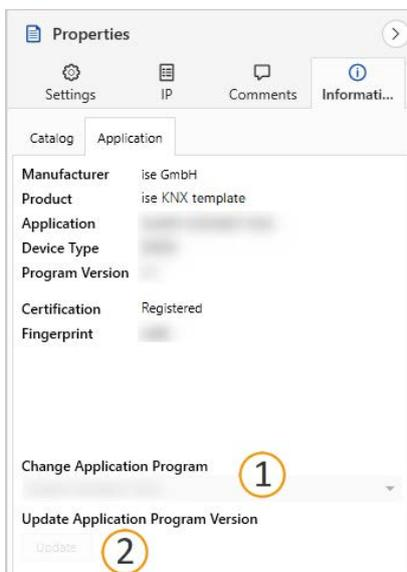

Figure 25: Updating the application program
5. Select the <<Update>> button under the item <<Update Application Program Version>> (see figure 25, item 2).
○ If you change the value under <<Change Application Program>> (see figure 25, item 1), user-defined settings such as links to group addresses will be lost.